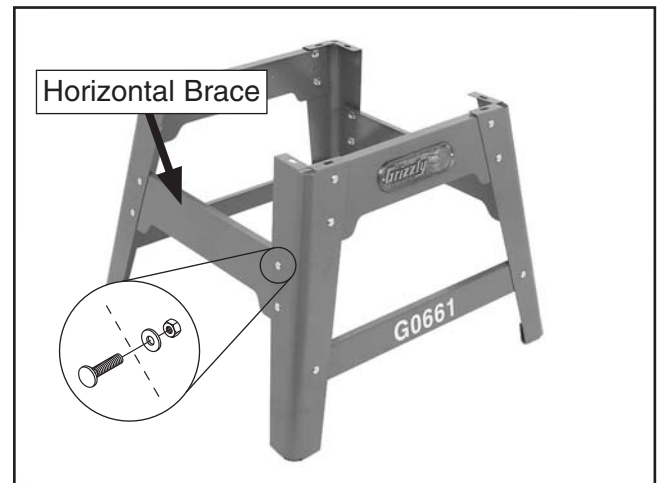

Figure 10. Stand assembly completed.
3. Attach both leg assemblies together with the remaining side stand braces and eight M8-1.25 x 12 carriage bolts, 8mm flat washers, and M8-1.25 hex nuts (**Figure 10**). Just hand tighten the fasteners for this step.